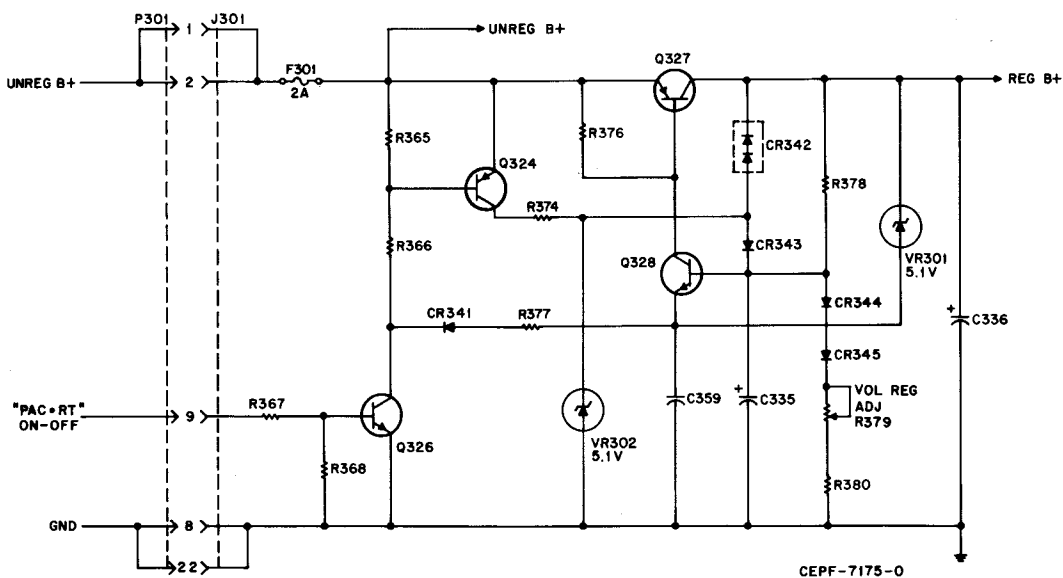

Figure 22. Typical Voltage Regulator
a. Voltage Regulator (Refer to Figure 22)
The voltage regulator shown in Figure 22 uses dc negative feedback reference amplifier Q328 to control the output voltage. The desired regulated voltage is obtained by adjusting R379. Once set, any variation in the regulated voltage is applied to the emitter of Q328 because of the constant voltage drop across Zener diode VR301. A fraction of the variation, determined by the voltage divider action of R378 with CR344, CR345, R379, and R380, is applied to the base of Q328. The resultant change in base-emitter voltage varies the collector current through Q328 which changes the base drive to Q327 returning the regulated voltage to its original value.